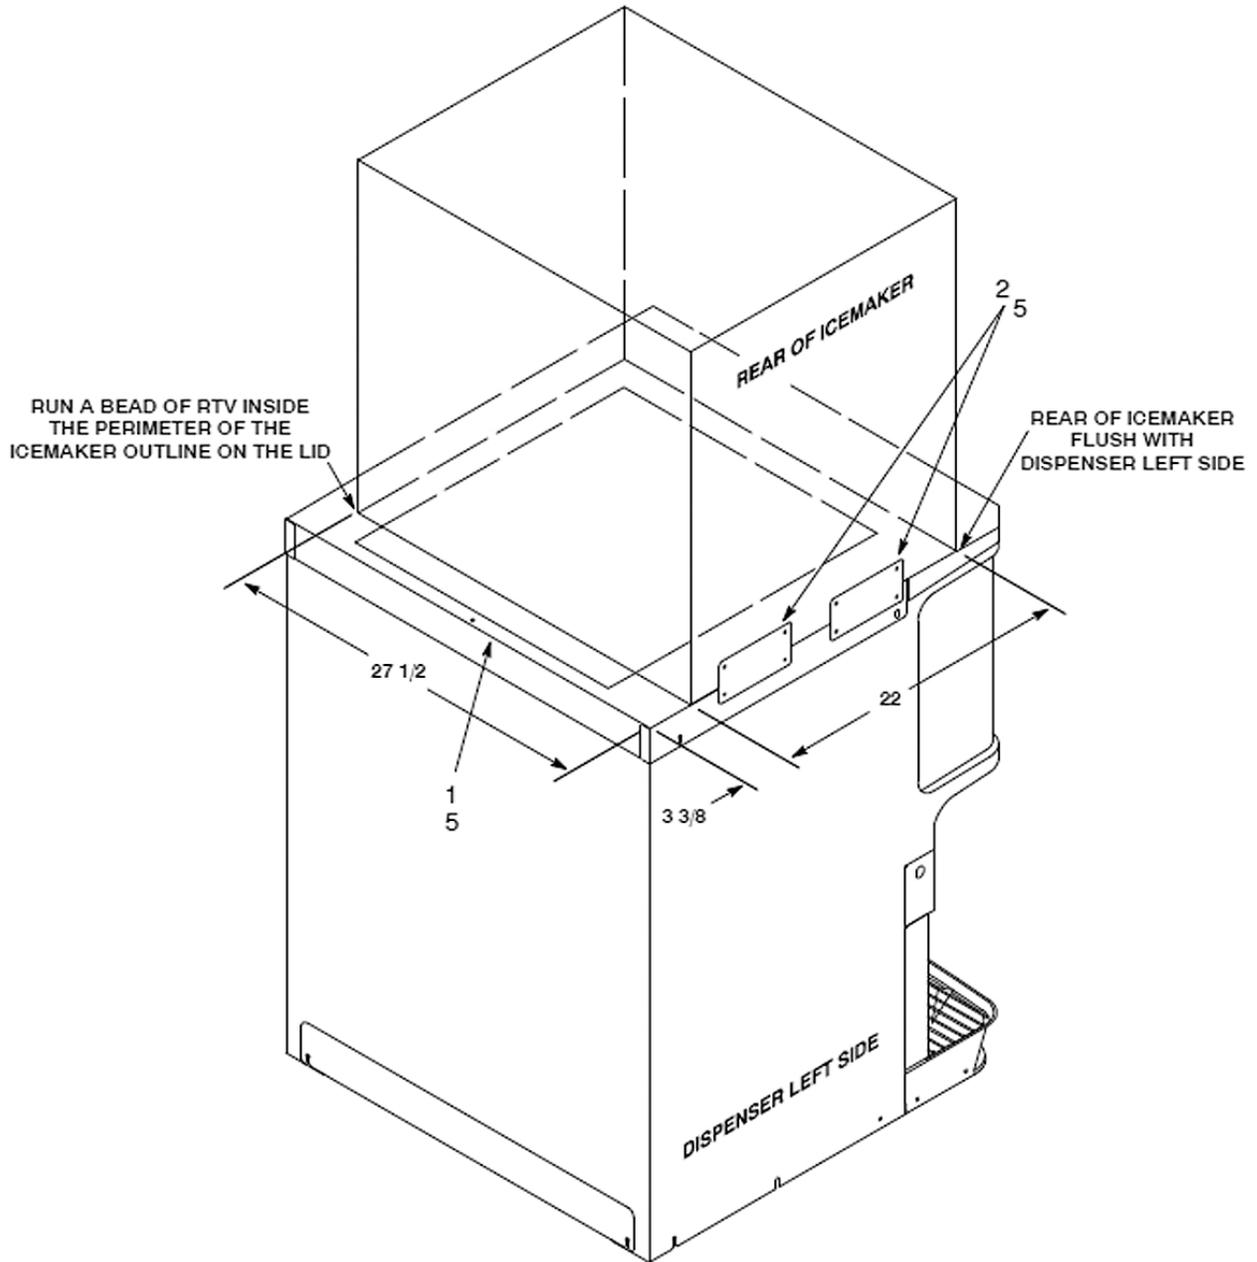

Figure 2. Dispenser Rear View
- Seal the ice maker to the top of the dispenser as follows (See Figure 2).
- Set the ice maker onto the lid and position it as shown in Figure 2.